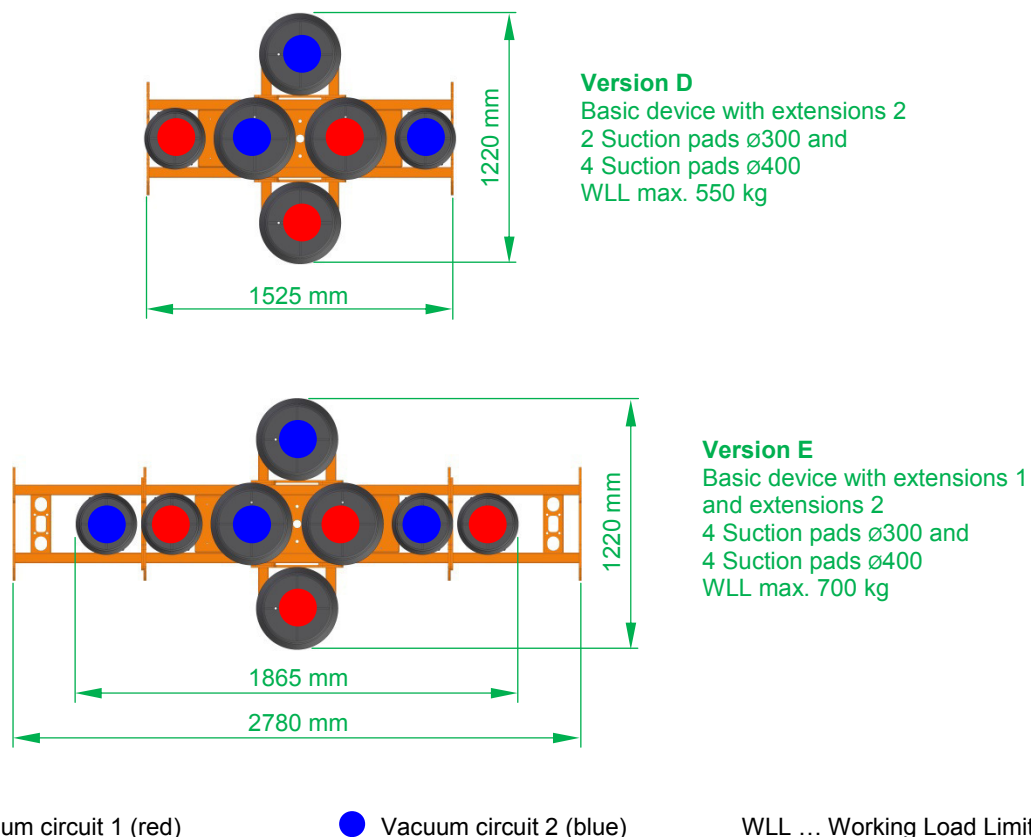

Fig. 3: Possible configuration of the OKTOPUS® and arrangement of the suction pads
Through the mounting of extensions (s. Point 3.3) the OKTOPUS® GLASS-Jack GL-LN 700 can be adapted to the most diverse element dimensions. All possible options can be seen in fig. 3. In order to make the presentation clearer, the crane arm is not shown.
- Please contact the Wirth service team if an arrangement of the suction pads differing from figure 3 is required.